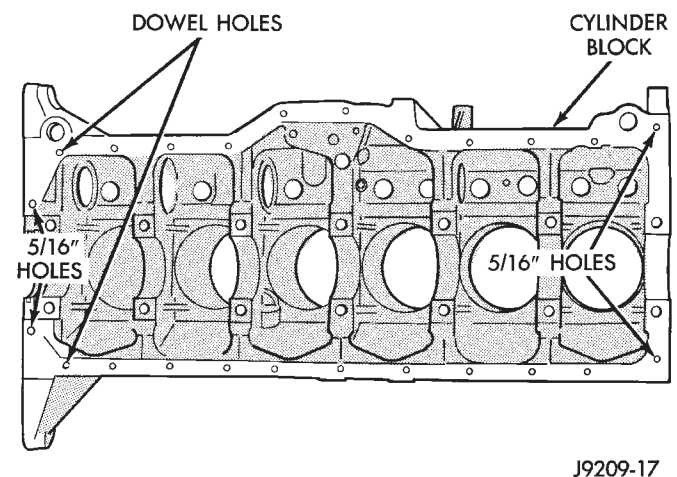

Fig. 53 Position of Dowels in Cylinder Block
(3) Install two dowels in the timing case cover. Install the other two dowels in the cylinder block (Fig. 53).